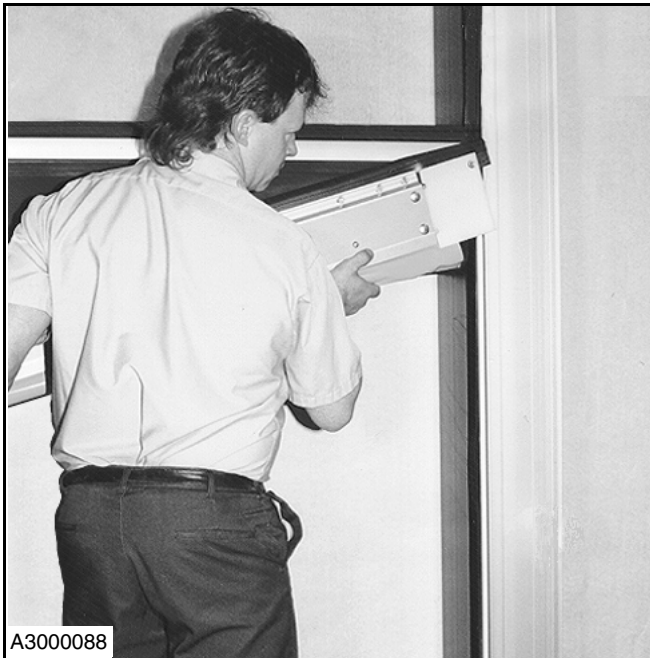

Figure 4
1. Position the breakaway tabs on one end of the bottom bar assembly in the side column channel. Lift the other end of the bottom bar and position the breakaway tabs in the side column channel. (See Figure 4.)